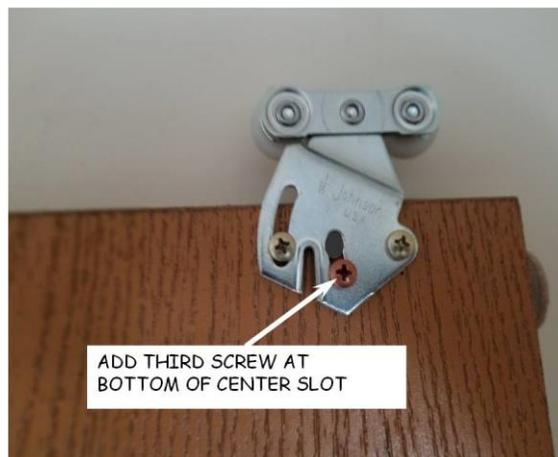

Figure 18-3. Closet Door Hanger with 3rd Screw Installed.
6. Verify that the bottom gap is still within specification and the contact between the door side edges and the wall is uniform top-to-bottom. If so, add the third screw to each hanger, in the bottom of the small, curved slot, and hand tighten all the screws (see Figure 18-3).